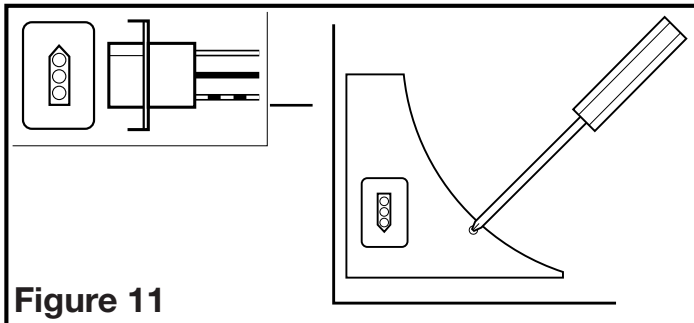

Figure 11
2. Reinstall the fan's wire compartment cover. Rotate the blower wheel by hand to ensure it spins freely. Plug the fan's quick connect motor cord into the receptacle. This cord will only fit one way into the receptacle (**Figure 11**).